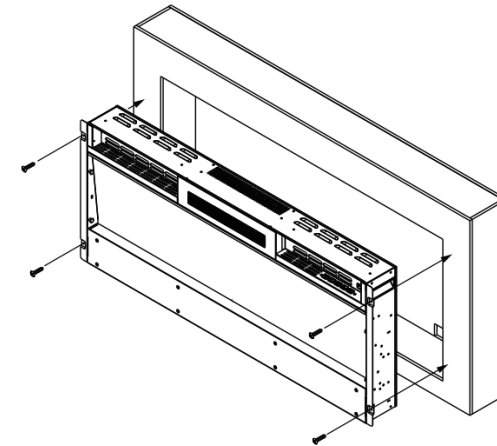

Fig.2
- For optimum viewing, mark the top four screws (fixing positions on the wall in accordance with the recommended fixing dimension; See Fig.2
- Remove the back panel from the appliance first, see Fig.2
- Carefully lift up the heater ensuring the top rear ledge of the heater engages with the wall bracket (see Fig.2) and is sitting centrally. This process should be carried out by two people to avoid injury or damage to property or the appliance.
- For optimum viewing, mark the left and right screws ( fixing positions on the wall in accordance with the appliance's holes; See Fig.2